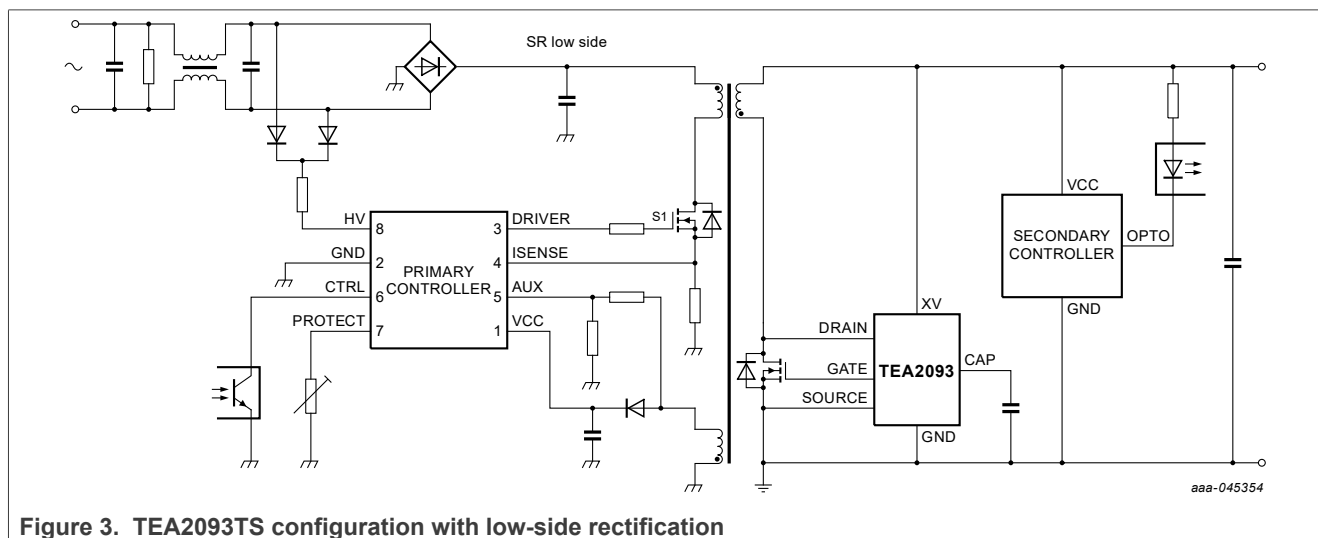

Figure 3. TEA2093TS configuration with low-side rectification
The TEA2093TS is a controller IC for synchronous rectification (SR) in asymmetrical half-bridge flyback and standard flyback applications. It can drive the external synchronous rectifier MOSFET for the rectification of the voltage on the secondary winding of the transformer. Figure 3 shows a typical configuration.
The maximum output voltage of the driver is limited to 12 V. This high output voltage drives all MOSFET brands to the minimum on-state resistance. In applications where the IC is supplied with 5 V, the maximum output voltage of the driver is 4.2 V and logic level SR MOSFETs can be used (see Figure 3).